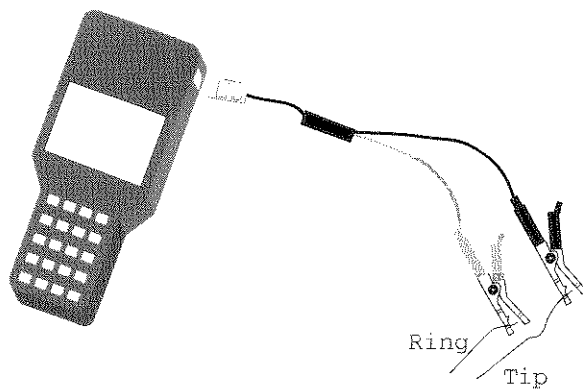

Figure 6-3 Connecting the SunSet to Tip & Ring
- 1) Connect the SunSet to the pair to be tested with the TDR/LINE/DMM jack. Refer to Figure 6-3. In this figure, alligator clips are used to connect to the copper pair.